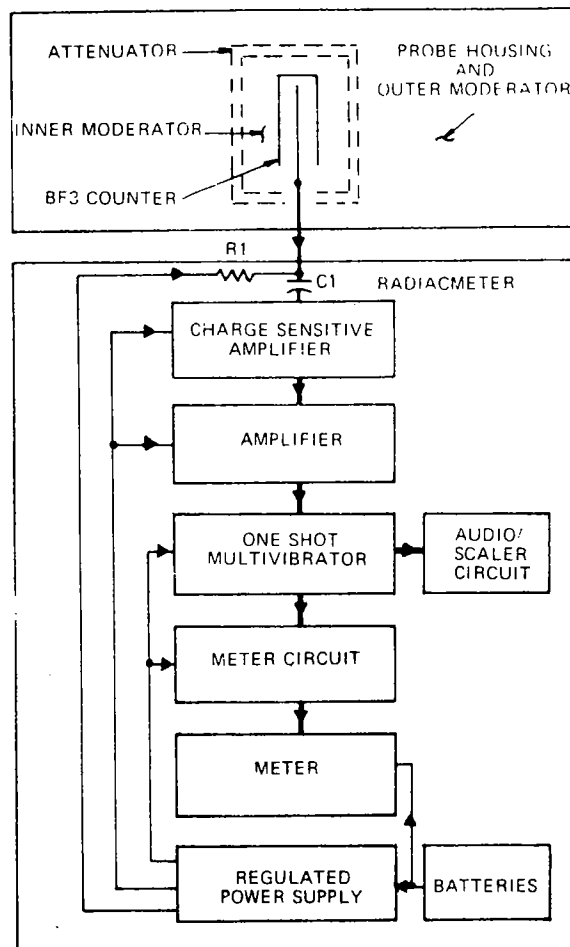

Figure 4-1. Radiac Set Block Diagram
b. (See figure 4-1) The probe housing is polyethylene, which has a high hydrogen content. The hydrogen presents a large scattering cross section to the neutrons. Through elastic collisions with the hydrogen atoms the fast and epithermal neutrons give up a large part of their energy and are reduced to thermal neutrons. A cylindrical attenuator containing boron-10 isotope surrounds an inner moderator which contains the proportional counter. The thermal neutron flux density resulting from moderation by the probe housing of all the neutrons in the field are attenuated as a result of the high scattering cross-section of the boron-10. The boron-10 isotope has a neutron cross-section which is proportional to the square root of neutron energy. Some of the neutrons arriving at the attenuator are scattered and prevented from reaching the BF₃ proportional counter. Neutrons which are not thermalized and which are not attenuated will be thermalized by the inner polyethylene
a. **CIRCUIT DESCRIPTION.** (See Figures 4-1 and 5-5.) The neutron detector, located within the probe housing, is a BF₃ proportional counter. The counter consists of a cylindrical metal shell with a center anode wire maintained at a high positive potential with respect to the shell. Boron-trifluoride gas is contained within the shell and neutrons are detected by their interaction